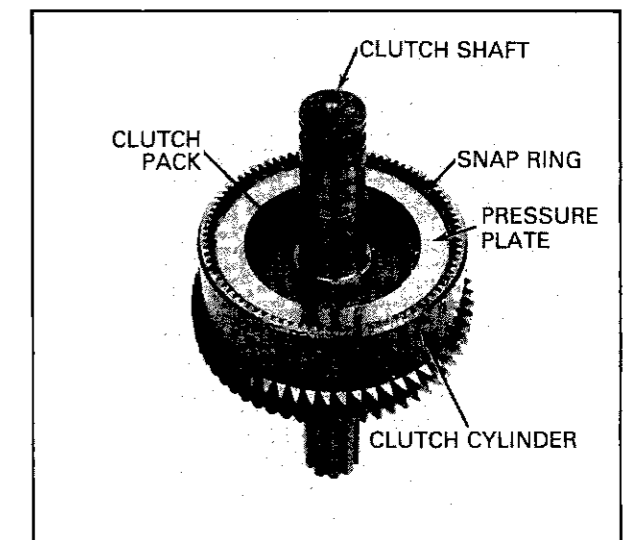

FIG. 26 PRESSURE PLATE INSTALLATION
21. Assemble the pressure plate into the clutch cylinder (Fig. 26).
22. Install a snap ring into the groove above the pressure plate (Fig. 26).